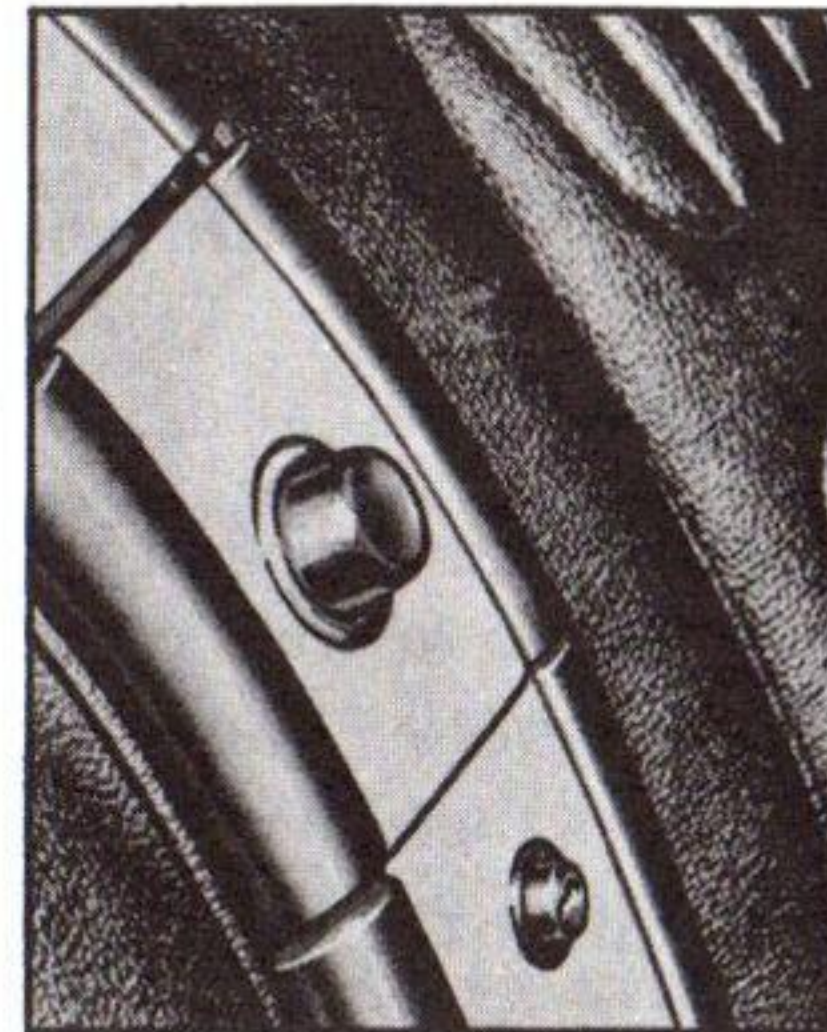

Fig. 75—Top Compartment Opening Button
2. Push the button located on the seat separator panel (fig. 75). This unlatches the folding top compartment cover and at the same time completes the folding top electrical circuit.
3. Push the button (fig. 75) to unlatch the top compartment cover.